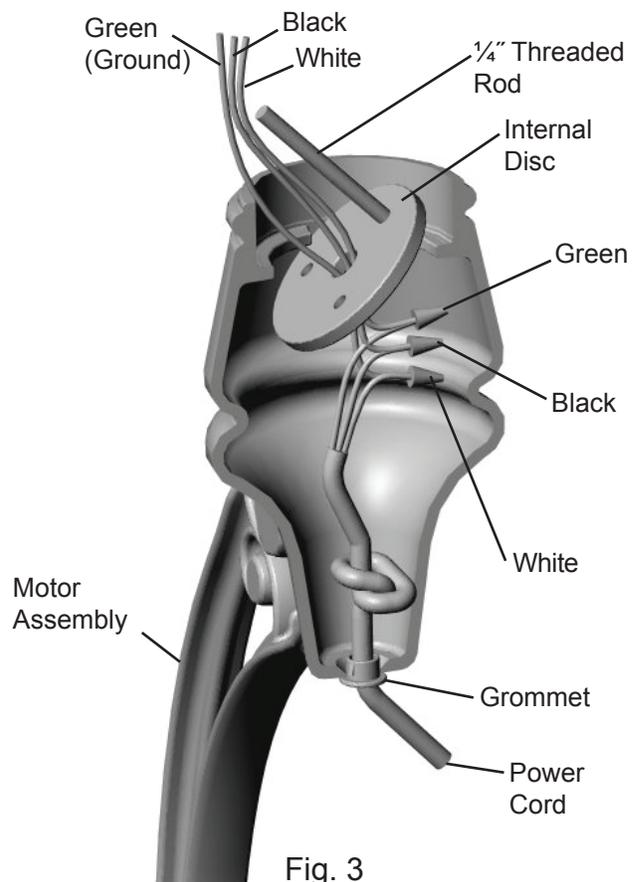

Fig. 3
5. Thread the 1/4" installation rod into one of the 3 threaded holes in the 3" dia. x 1/4" internal disc provided (Fig. 3).